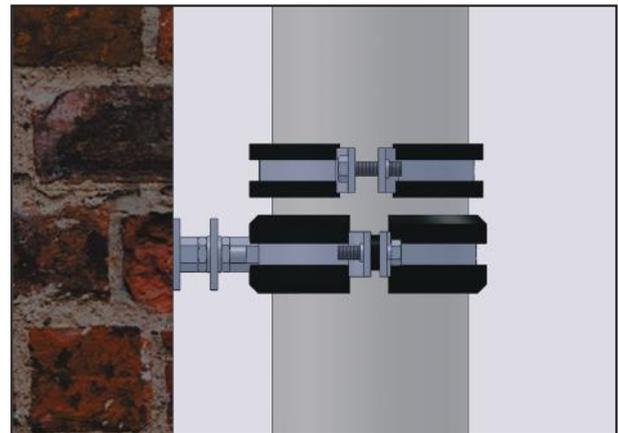

Figure 7
- The connection of vertical pipe lines for floors higher than 2.5 meters should be made with a wall-mounted clamp and a free clamp. **(Figure 7)**